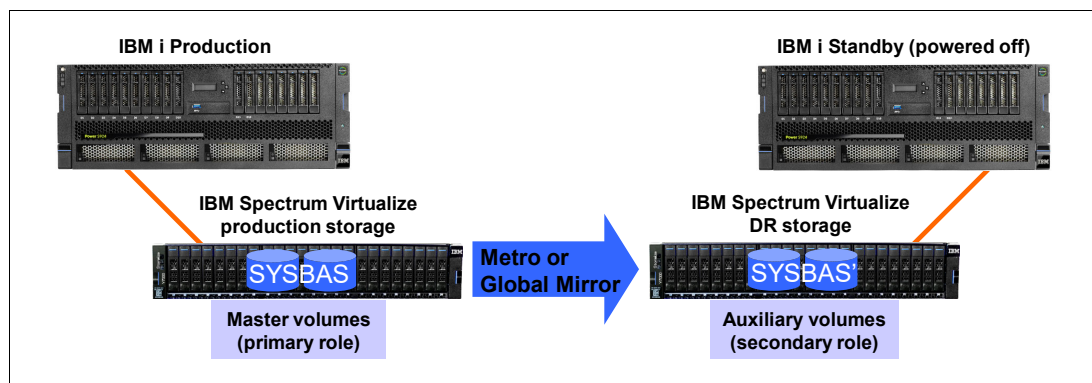

Figure A-11 IBM i full system replication with IBM Spectrum Virtualize
Full system replication is used for disaster recovery (DR) purposes where an IBM i standby server is used at the DR site, as shown in Figure A-11.